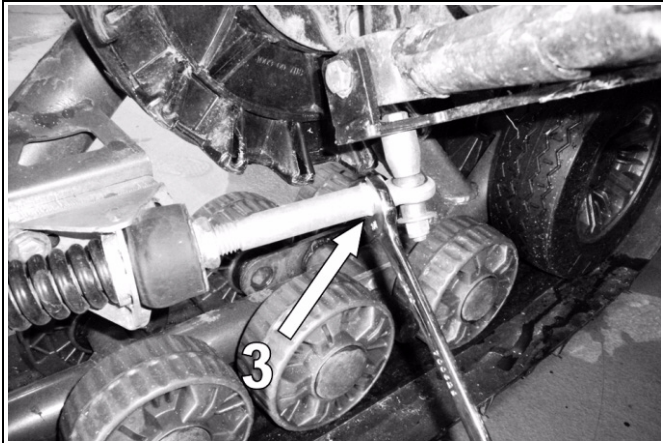

Figure 10
NOTE: In some rare cases where the adjustment of the nut (1) compressing the spring is near the end of the threaded rod, extend the rod by unlocking the jam nut (item 3 on Figure 10) and unscrew the rod to obtain 19 mm max. of visible threads. Re-tighten the jam nut.